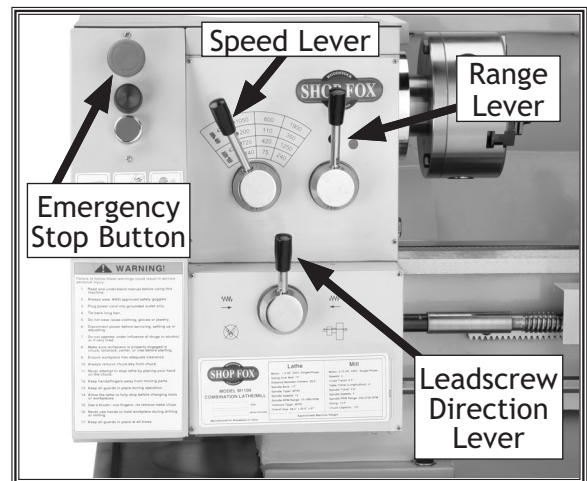

Figure 12. Headstock control levers.
3. Move the spindle speed lever to the 75 RPM position, the range lever to the red-dot position, and the lead screw lever to the neutral position as shown in **Figure 12**.
4. Rotate the red emergency stop button (**Figure 12**) clockwise so it pops to the outward position.